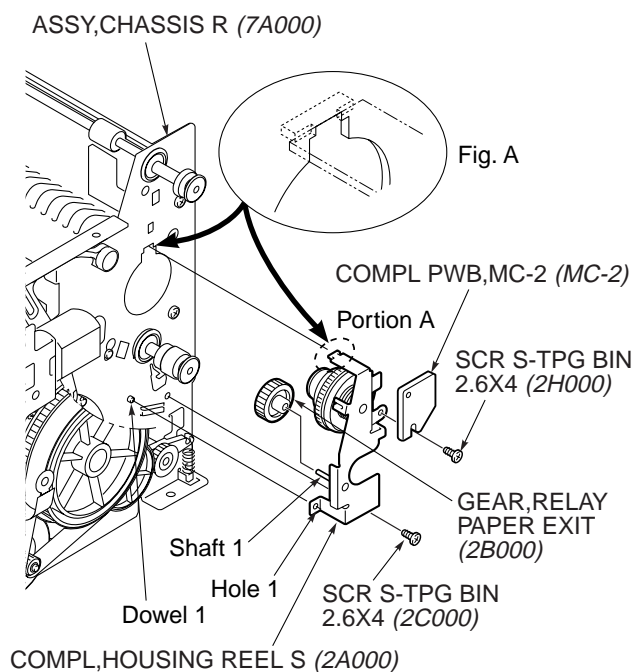

Fig. 3-2-2
- 2) Remove the "SCR S-TPG BIN 2.6X4 (2H000)" and remove the "COMPL PWB, MC-2 (MC-2)". (Refer to Fig. 3-2-2.)
- 3) Remove the "SCR S-TPG BIN 2.6X4 (2C000)". (Refer to Fig. 3-2-2.)
- 4) Remove the "COMPL, HOUSING REEL S (2A000)". (Refer to Fig. 3-2-2.)
- 5) Remove the "GEAR, RELAY PAPER EXIT (2B000)". (Refer to Fig. 3-2-2.)
1. After cleaning shaft 1, apply oil (VHJ-0099) around it. (Refer to Fig. 3-2-2.)
2. Insert portion A on the "COMPL, HOUSING REEL S (2A000)" into hole on the "ASSY, CHASSIS R (7A000)", as shown in Fig. A of Fig. 3-2-2.
3. Align dowel 1 on the "ASSY, CHASSIS R (7A000)" with hole 1 on the "COMPL, HOUSING REEL S (2A000)". (Refer to Fig. 3-2-2.)
NOTE: When carrying out steps 5) - 8), be careful not to injure the surface of the head by pressing down too hard on the "COMPL, HOLDER TPH (1A000)" shown in Fig. 3-2-2. To prevent injury to the surface of the head, insert printing paper (approx. 100mm wide x 148mm long) from the ink ribbon slot.